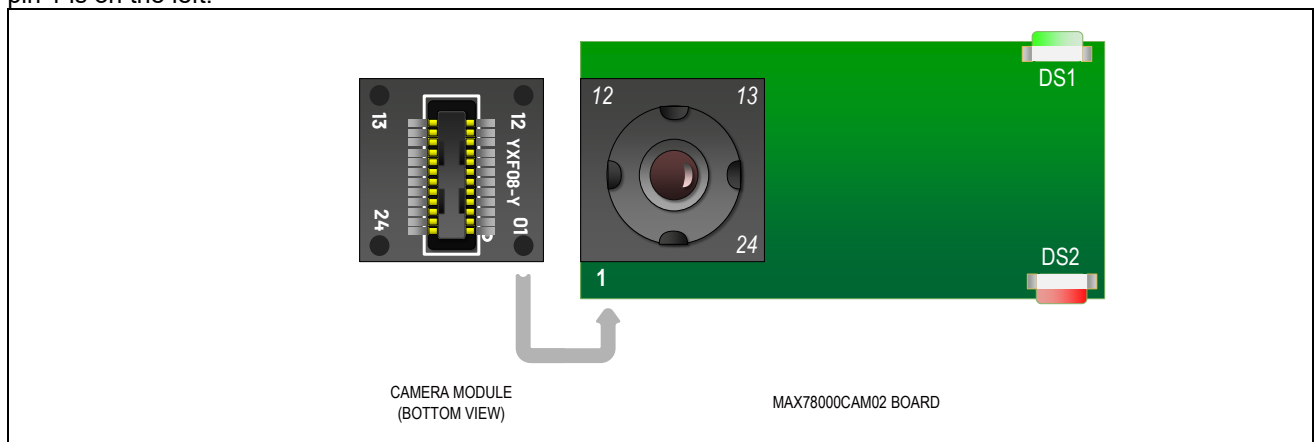

Figure 5. MAX78000CAM02 Board and Camera Module Alignment
4. If the camera module is not plugged in properly, make certain that pin 1 on the connector and the camera module match each other. The pin 1 locations for both the PCB and the camera module are shown in Figure 5. When installed, pin 1 is on the left.